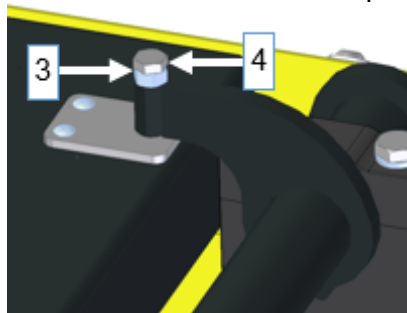

Figure 8
- Loosen the lock nuts (see Figure 8). Then the bolt is screwed in until the lid seal fits snugly against the hopper.